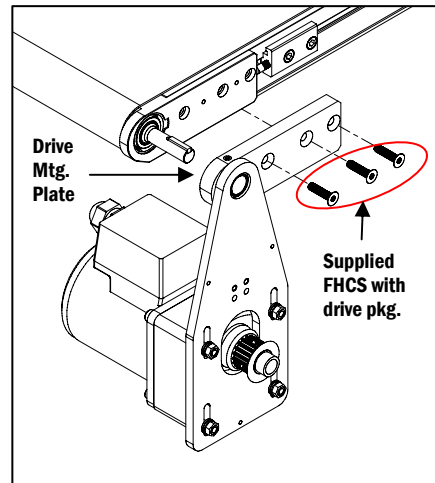

Figure 5
- b. Install and tighten the M6 Flat Head Screws included with the drive mounting package into the countersunk holes of the Drive Mounting Plate (**Figure 5**).